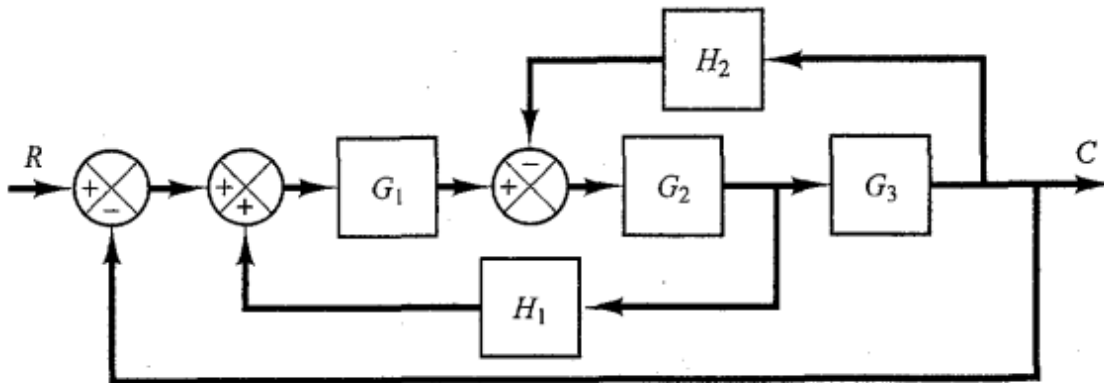

Figure Q3(a)
A dynamic system is shown in the block diagram below, Figure Q3(a),
- a) Show how the block diagram in figure Q3(a) could be reduced to describe the output over the input C/R. **[6 marks]**